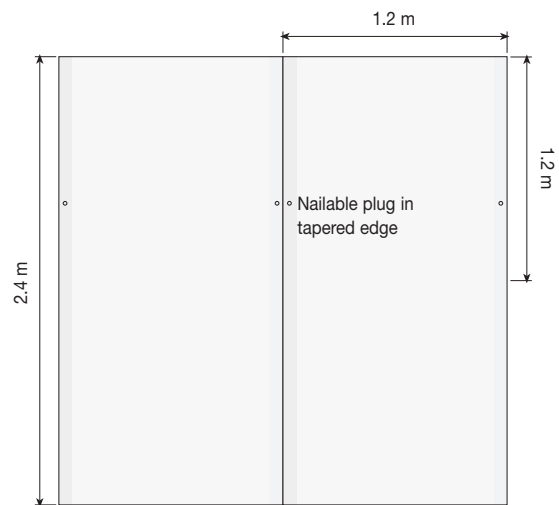

Figure 5 Nailable plug fixing pattern
- Nailable plugs are recommended to back up the plaster / drywall adhesive dab bond. These are normally applied at a rate of 2 No. per sheet, after the plaster / drywall adhesive dabs have set (see fig 5).